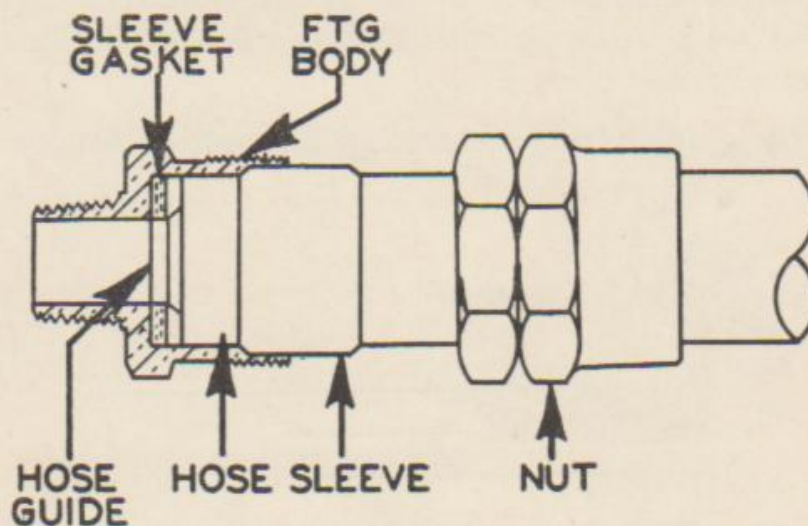

FIGURE 112
(4) Put nut on hose and then screw sleeve on outside of hose until the edge of sleeve abuts against the edge of the body when the shoulder of the hose guide is against the sleeve gasket. The short grooves in the sleeve should be placed on the hose first.
(5) Remove protector cover from sleeve gasket.
(6) Place hose and hose guide on body as indicated in Figure 112.